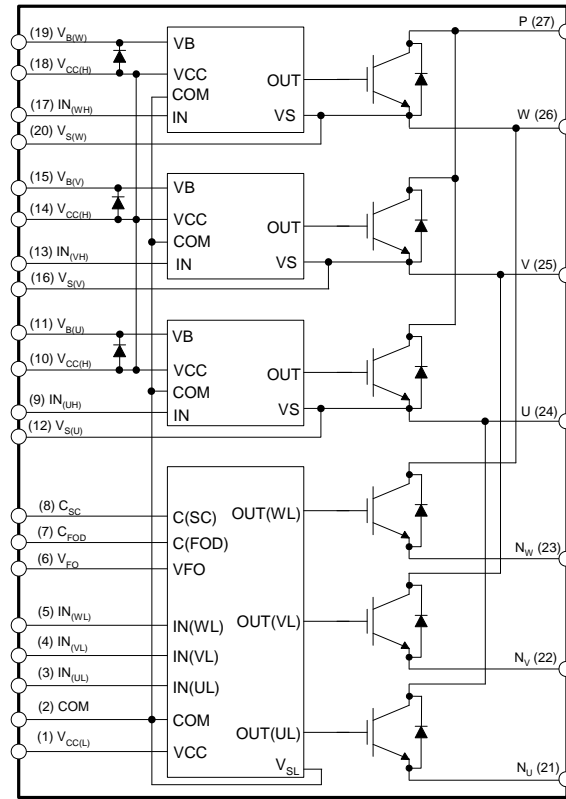

**Figure 2.**
| $T_C$                 | Module Case Operation Temperature  | - $40^\circ\text{C} \leq T_J \leq 150^\circ\text{C}$ , See Figure 2   | - 40 ~ 125 | $^\circ\text{C}$ |
2. For the measurement point of case temperature ( $T_C$ ), please refer to Figure 2.